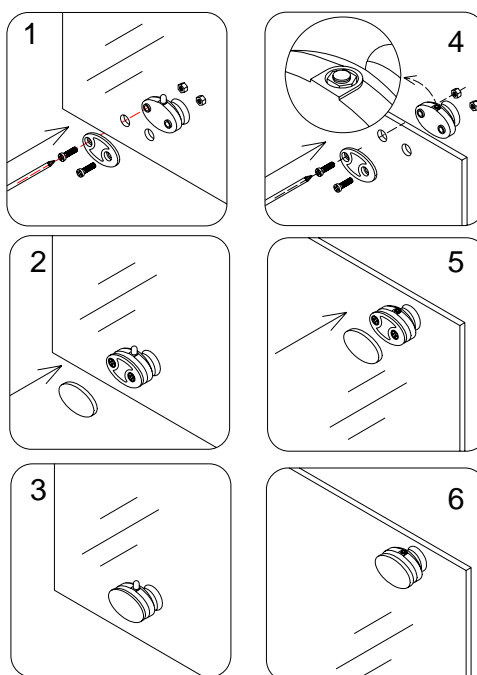

Fig 11
10. Your unit can be shipped to you with the **Wheel assemblies (17)** installed on the doors. If not, please refer to diagram (fig 11) how to install it. Attach the top and bottom wheels to the glass doors. The wheel that goes on the top has an adjustable screw and nut to adjust the door level. Note that the lock nut of upper wheel should face up. The bottom wheel has a press button to fix the wheel on the bottom guide rail; that button should face up. See Fig 11 for details.